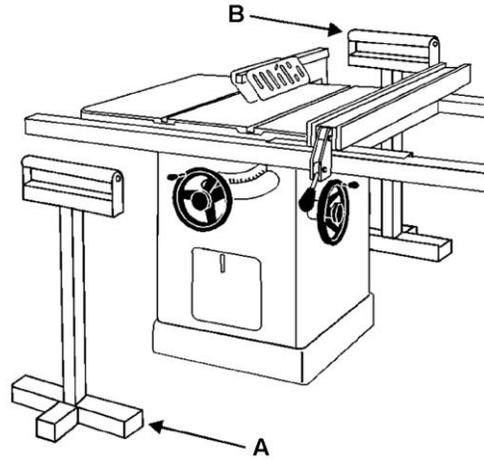

Figure 8-6
When ripping long boards, use a support at front of table (A, Figure 8-6), such as a roller stand, and a support or "tailman" (B) at the rear.